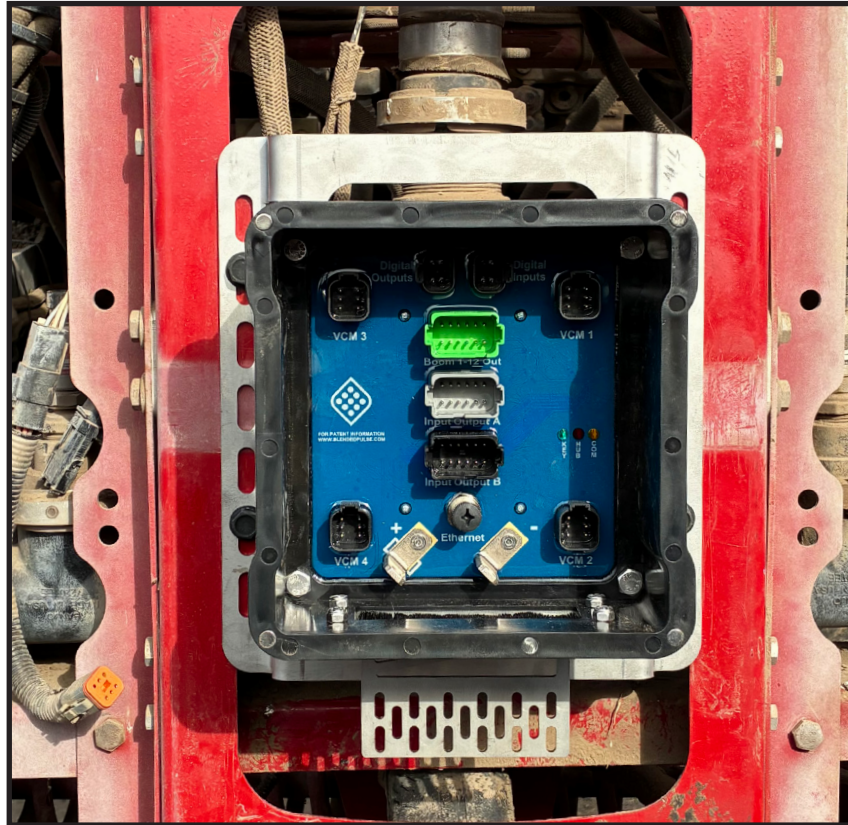

Figure 3: PIII Lite Hub Mounted
4. PIII Lite Hub Assembly mounted to machine should look similar to **Figure 3**.